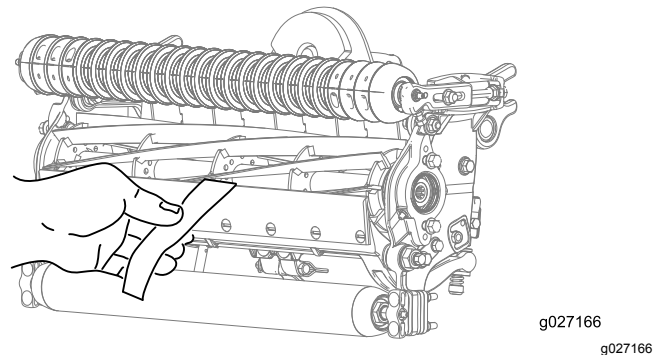

Figure 11
12. Test the cutting performance by inserting a long strip of Toro cutting performance paper between the reel and the bedknife, perpendicular to the bedknife (**Figure 11**).